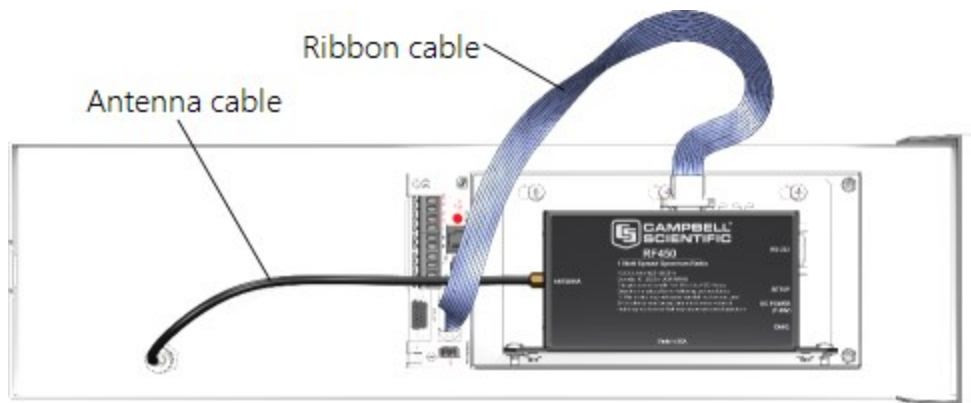

FIGURE 6-26. Radio mounted in the WS-PRO2 (battery not shown)
1. Mount the bracket and radio inside the enclosure using the three existing screws (FIGURE 6-26 (p. 43)).
3. Attach the other end of the cable to the BNC RF bulkhead connector in the lower right corner of the enclosure. Make sure all connections are tight (FIGURE 6-26 (p. 43)).